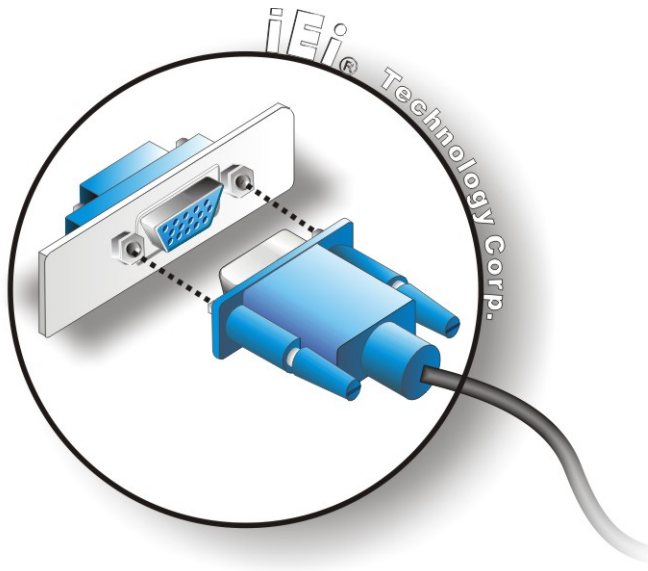

Figure 4-21: VGA Connector
- Step 3:** **Insert the VGA connector.** Once the connectors are properly aligned with the insert the male connector from the VGA screen into the female connector on the IMBA-Q454-R10. See **Figure 4-21**.